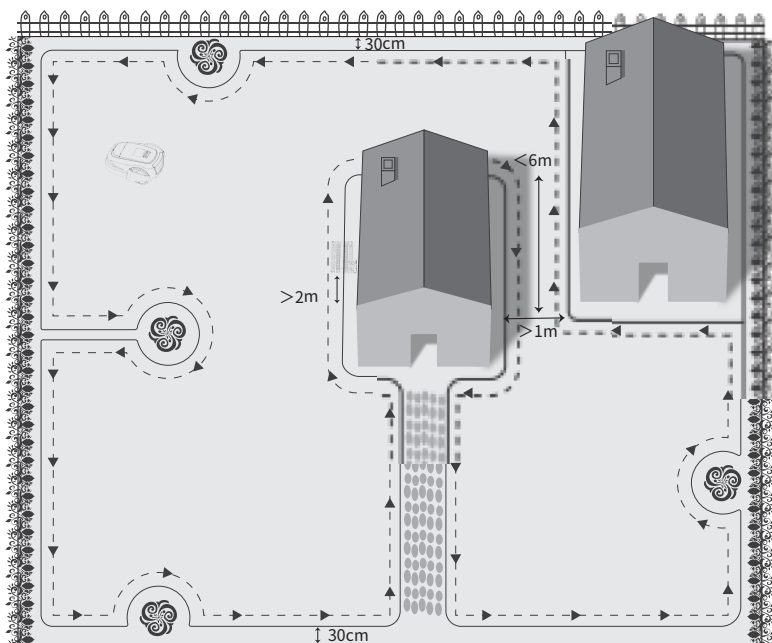

Fig.3-3-1
Laying the boundary wire (Fig.3-3-1)
- Allow a narrow space in the working area of the mower. Make sure that the distance between the parallel boundary wires is greater than 1m (Fig.3-3-1).